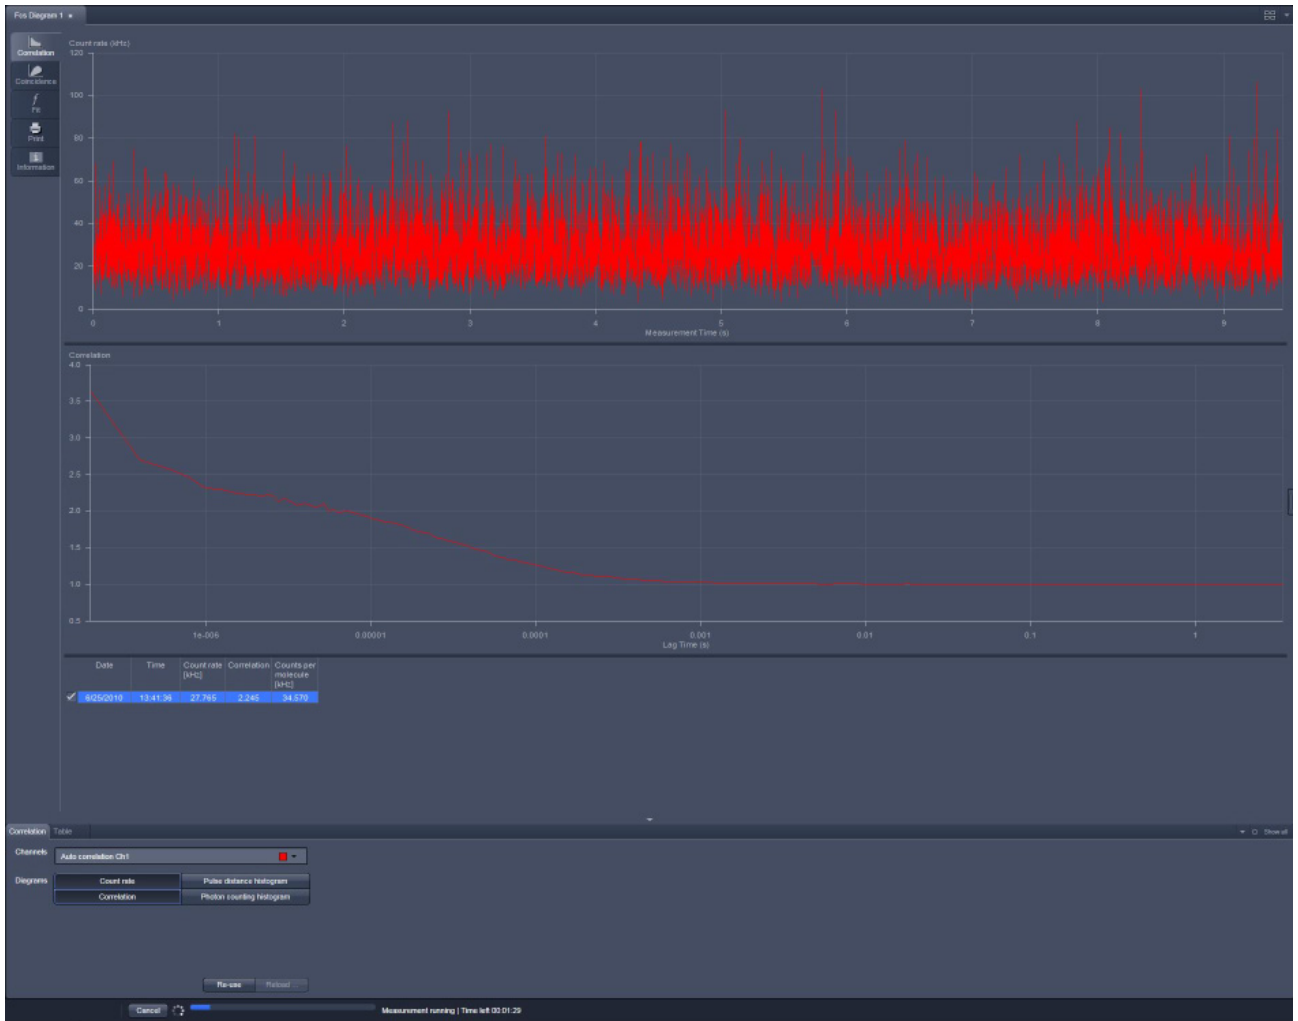

Fig. 351 FCS Correlation window during data acquisition
- Click on the **Snap** or **Start Experiment** action button to start the measurement and data analysis process. If **Snap** was chosen, exactly one measurement at the first **Carrier** or highlighted **LSM Image** (Fig. 351) position will be performed. If **Start** was selected, measurements will be performed on all selected positions in a sequence.